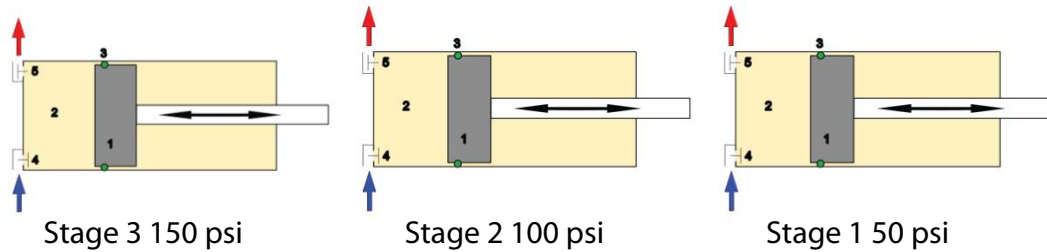

Figure 2 Diagram of multi-stage reciprocal compressor
In a multi-stage application, several chambers are linked together and the gas is pressurized in several stages. For example in Figure 2, Stage (1) would increase the pressure to 50 psi, stage (2) to 100 psi and stage (3) to the final desired 150 psi.